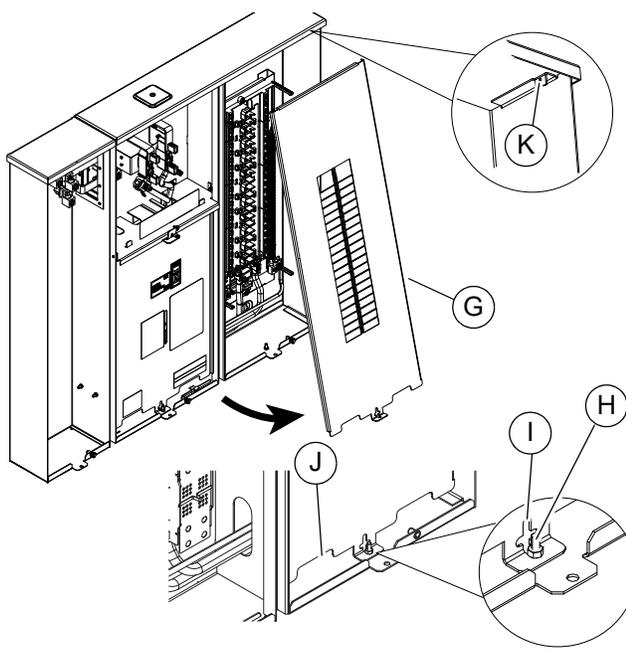

Figure 3-4. Remove Cover and Panel (ILC)
See Figure 3-4. Remove outer cover (C):
1. Remove thumb screw (D).
2. Slide slot (E) over retention tab.
3. Lower cover until clear of flange (F), and pull away from enclosure.